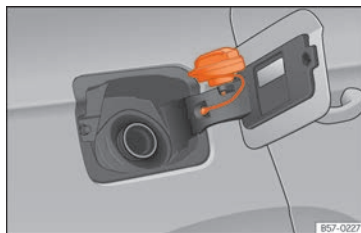

Fig. 61 Fuel tank flap with tank cap attached.
- Place it in the space on the hinge of the open flap » **Fig. 61**.